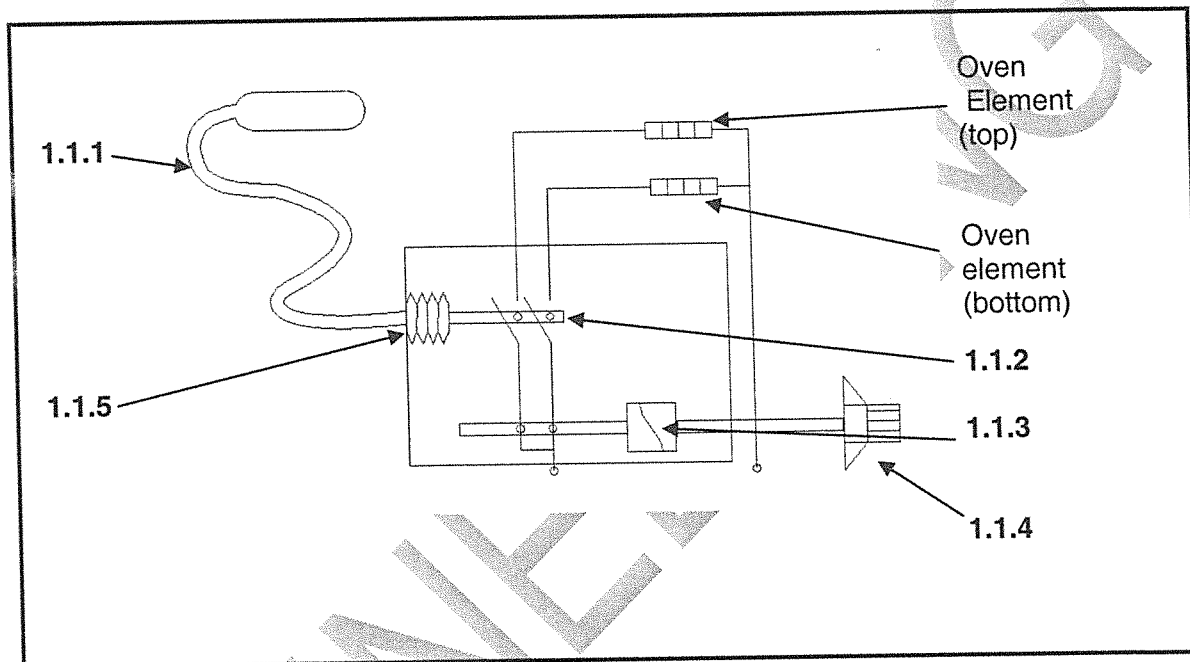

FIGURE 1
1.1 Study the sketch of an oven thermostat in FIGURE 1.